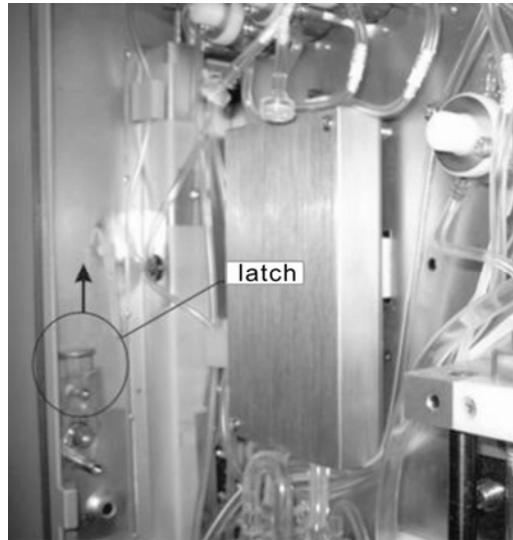

Figure 4-2
2. Lift up the front panel latch as indicated in Figure 4-2 and open the front panel;